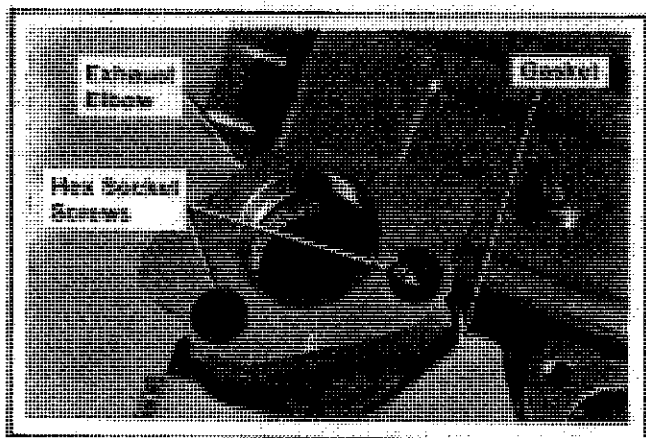

Figure 9-2. Removing Exhaust Elbows.
2. Remove the hex socket screws, exhaust elbows, and gaskets. Refer to Figure 9-2.